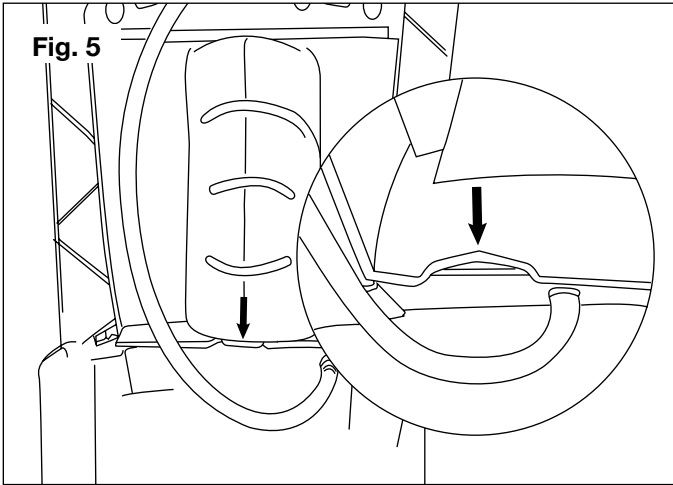

Fig. 5
4. Insert the detergent bottle (top end first) under the ridge of its designated storage compartment (Figs. 3 & 4). Then snap the bottom of the bottle into the V-shaped groove to secure it in place (Fig. 5).